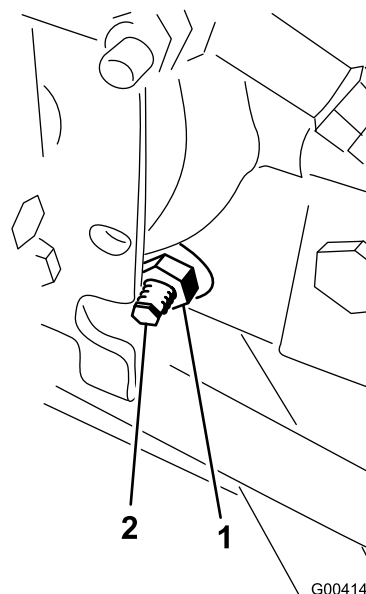

Figure 63
3. On the right side of the hydrostat, loosen the locknut on the traction adjustment cam (Figure 63).